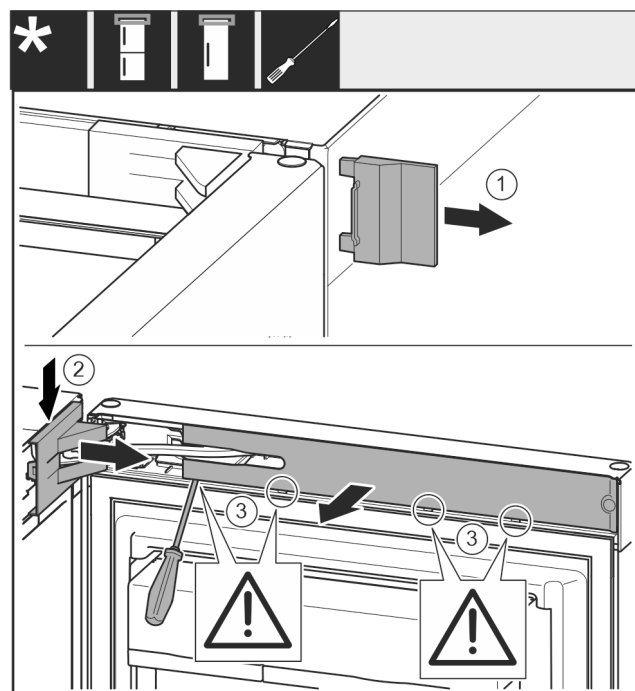

Fig. 8
- Remove cover Fig. 8 (1).
- Disengage and loosen the swap bearing block cover Fig. 8 (2).
- Remove the swap bearing block cover Fig. 8 (2).
- Use a slotted screwdriver to unlatch the trim Fig. 8 (3) and swing it to the side.